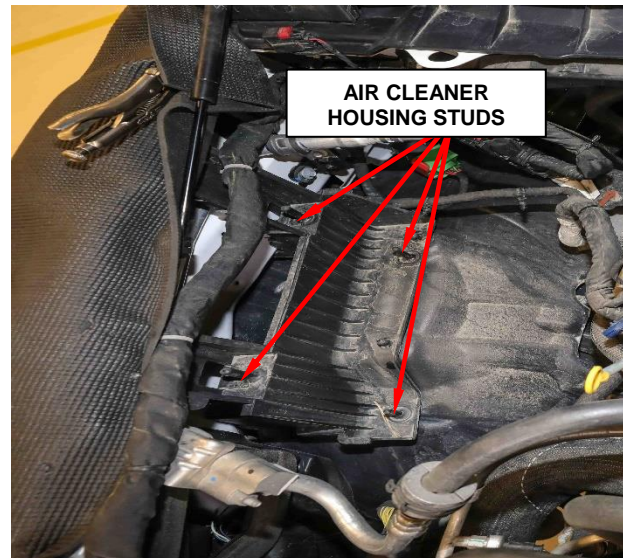

Figure 9 – Air Cleaner Housing Studs
5. Grasp the air housing sides and pull straight up and tilt to disconnect the air cleaner housing from the body studs (Figure 9).